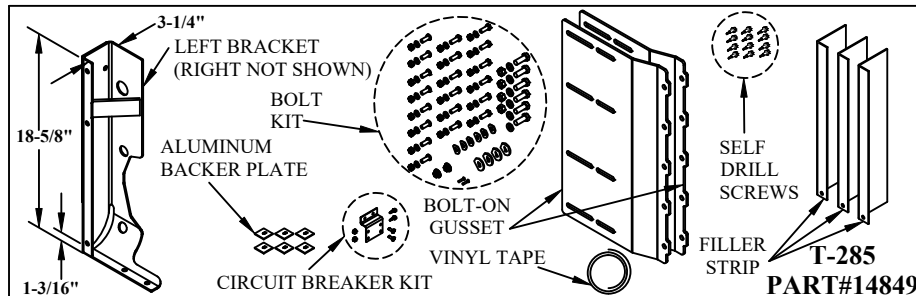

Figure 1: T-285 Part Identification.
2. Verify mounting bracket kit (Figure 1 and Table 1).